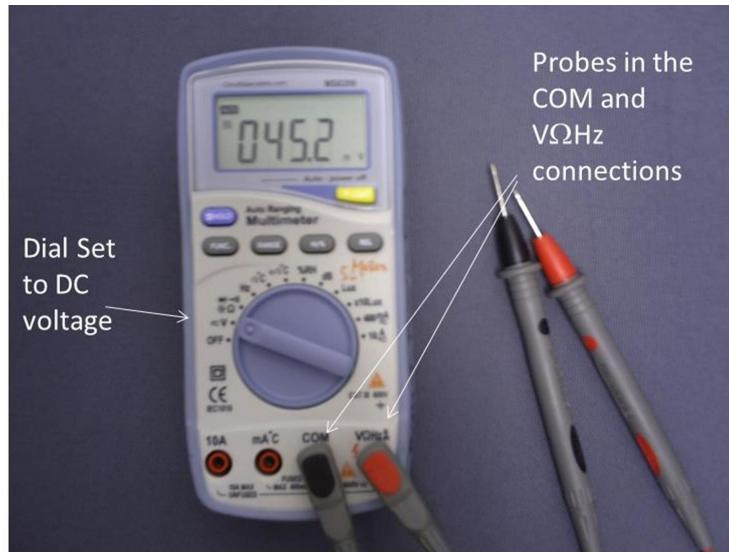

Figure 2.7: A multimeter set to measure DC voltage.
Our first measurement device is voltmeter. It measures the electric potential (voltage) between its two leads (sometimes called “probes”). Figure 2.7 shows an example of a multimeter set to measure voltage. The display is set to read voltage by turning the dial to the V position. There are often two voltage settings. The one that has a wavy line next to it is alternating current (AC) voltage. The one that has a straight line with three dots under it is the direct current (DC) voltage. For now, we will just use the DC voltage setting. The leads (probes) should be connected to the COM (common) and VΩHz connectors.